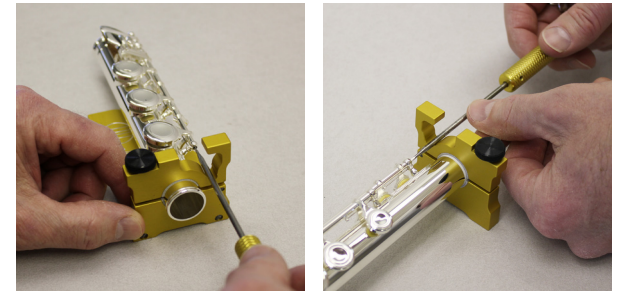

Fig. 8-9: Screwdriver access slots orient to pivot screws or trill and D-keys.
- Milled cutouts for screwdrivers provide easy access to the footjoint screw, D-key and trill key pivot screws. (Fig. 8-9)